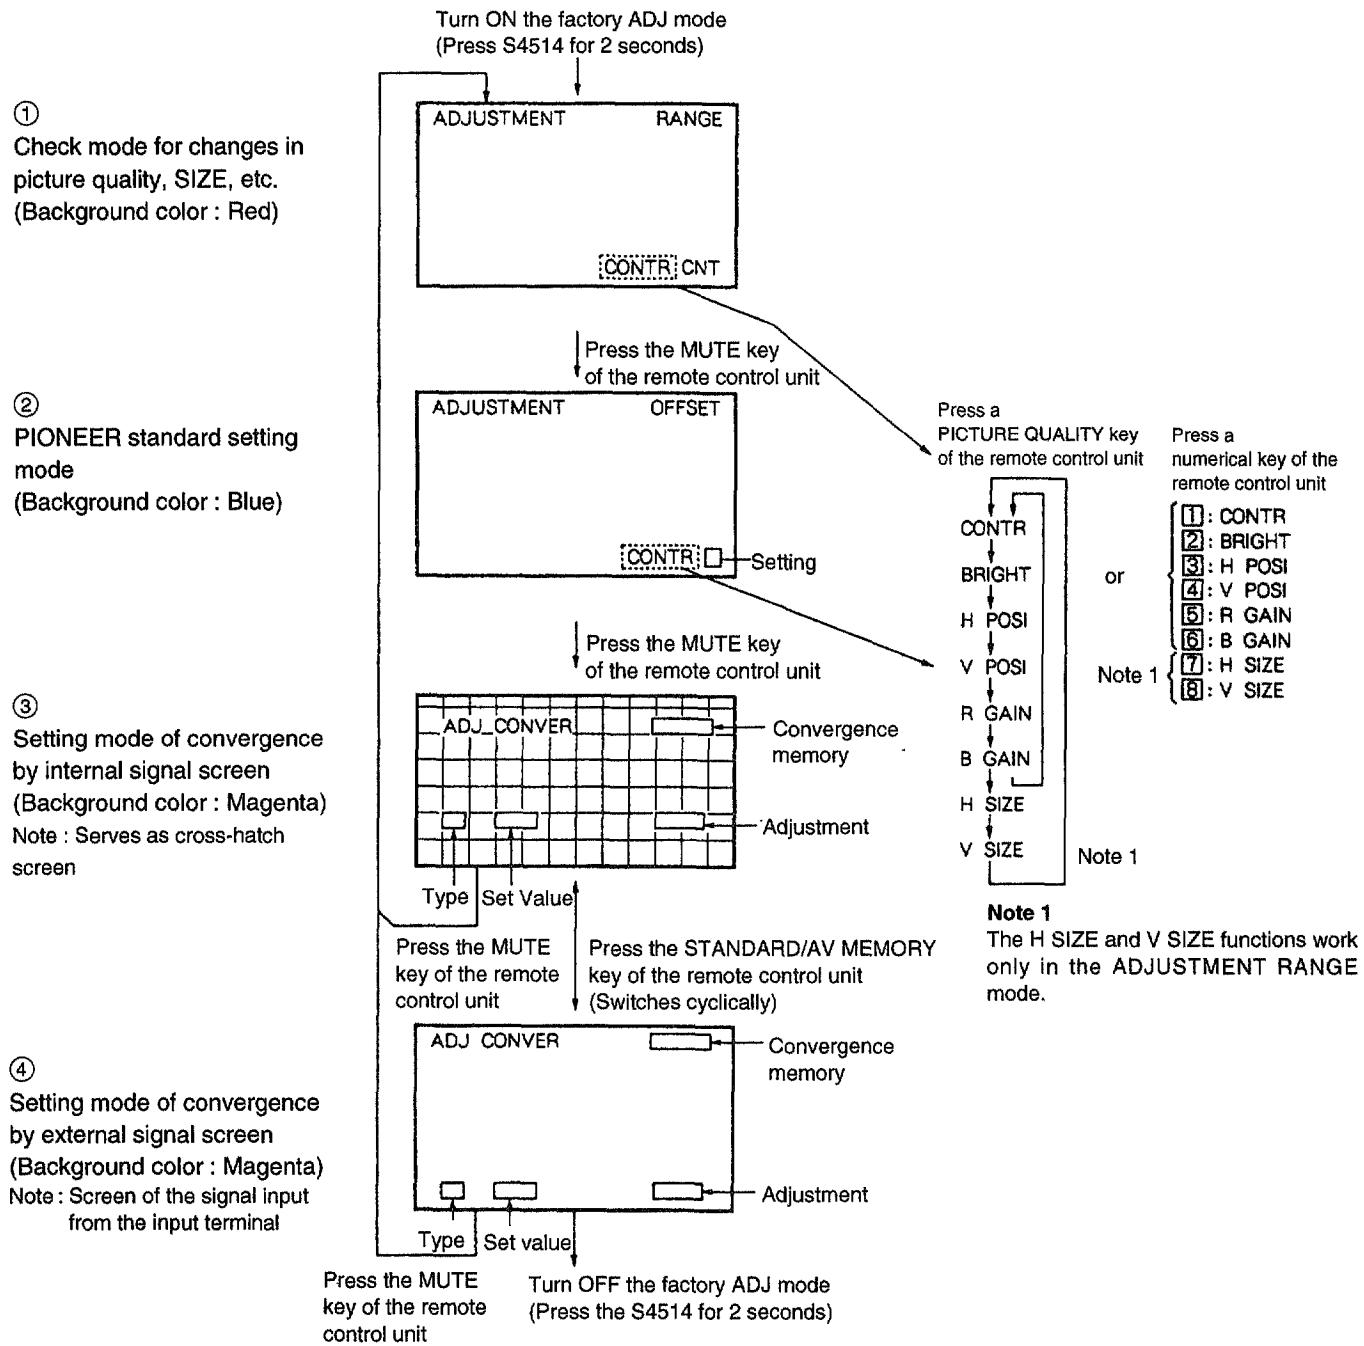

Fig. 8-1 Screen display in the factory ADJ mode.
①ADJUSTMENT RANGE mode
When the S4514 switch on the front control (Refer to Fig. 8-10.) is pressed and the factory ADJ mode is turned ON, the ADJUSTMENT RANGE mode screen shown in ① of Fig. 8-1 will be displayed.
②ADJUSTMENT OFFSET mode
When the MUTE key on the remote control unit is pressed, the mode changes from the ADJUSTMENT RANGE mode to the ADJUSTMENT OFFSET mode as shown in ② of Fig. 8-1.
③ADJ CONVER mode (Internal signal screen)
When the MUTE key on the remote control unit is pressed, the mode changes from the ADJUSTMENT OFFSET mode to the ADJUSTMENT CONVER mode as shown in ③ of Fig. 8-1.
④ADJ CONVER mode (External signal screen)
By pressing STANDARD/AV MEMORY key of the remote control unit, the screen of the ADJ CONVER mode can be cyclically switched between the ③ internal signal screen shown in Fig. 8-1 and ④ external signal screen shown in Fig. 8-1. The convergence adjustment can be performed using the external signal.